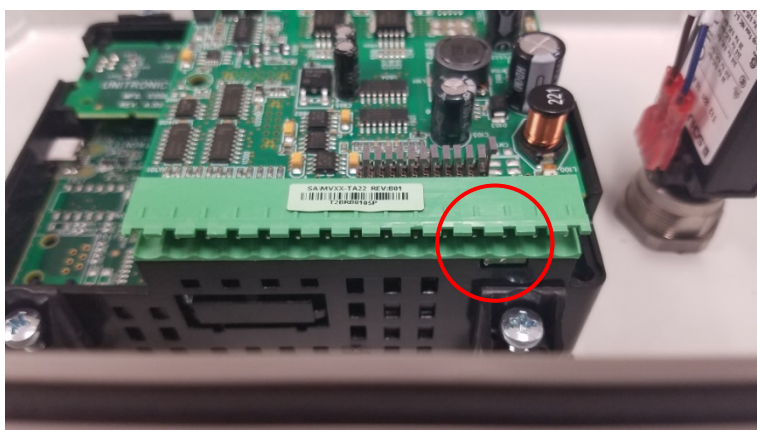

Figure 88. Location of Notch on Side of PLC
- b. To do this, find the side of the PLC with a small notch on it and find the small piece on the edge of the board that lines up with this.. **Refer to Figure 88.**